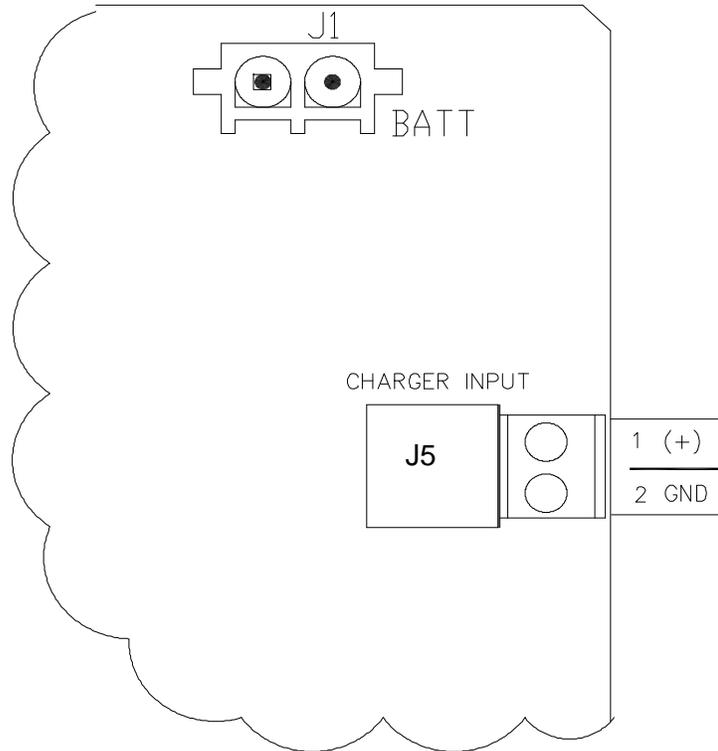

Figure 96: Battery Charger and Battery Pack Connections
2. Check battery pack cable. It must make a good secure electrical connection with the main electronic board BATT CONN connector J1 (Figure 96:).
1. Check the battery pack cable. It must make a good secure electrical connection with the main electronic panel BATT CONN connector J1 (Figure 96:).
7.2.4 Troubleshooting a Analog to Digital Failure Alarm (AD)